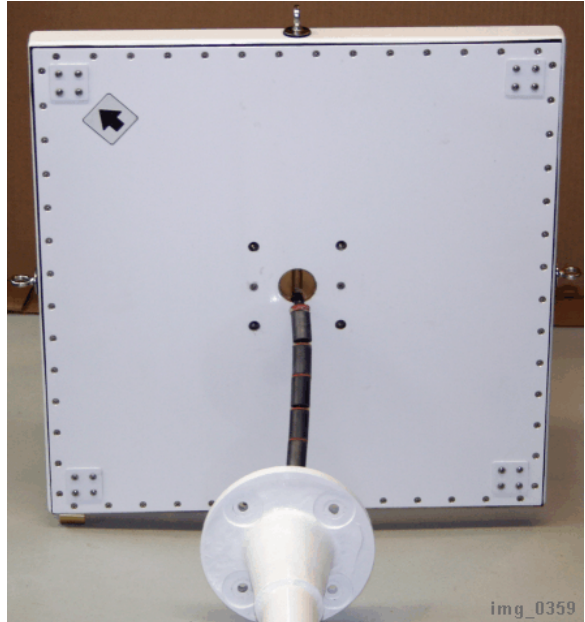

Figure 4 - Inserting the Ferrite-Loaded Interface Cable into the Mast
12. Insert the ferrite-loaded interface cable set through the mast end with the chassis support flange (see Figure 4). **Note:** There is an internal ferrite-support shoulder collar near the mast bottom that may obstruct the cable set ends and prevent them from pushing all the way through the mast. If the cable set ends catch on this shoulder, they can easily be freed by twisting and shaking the cable set or rolling the mast to a different position.